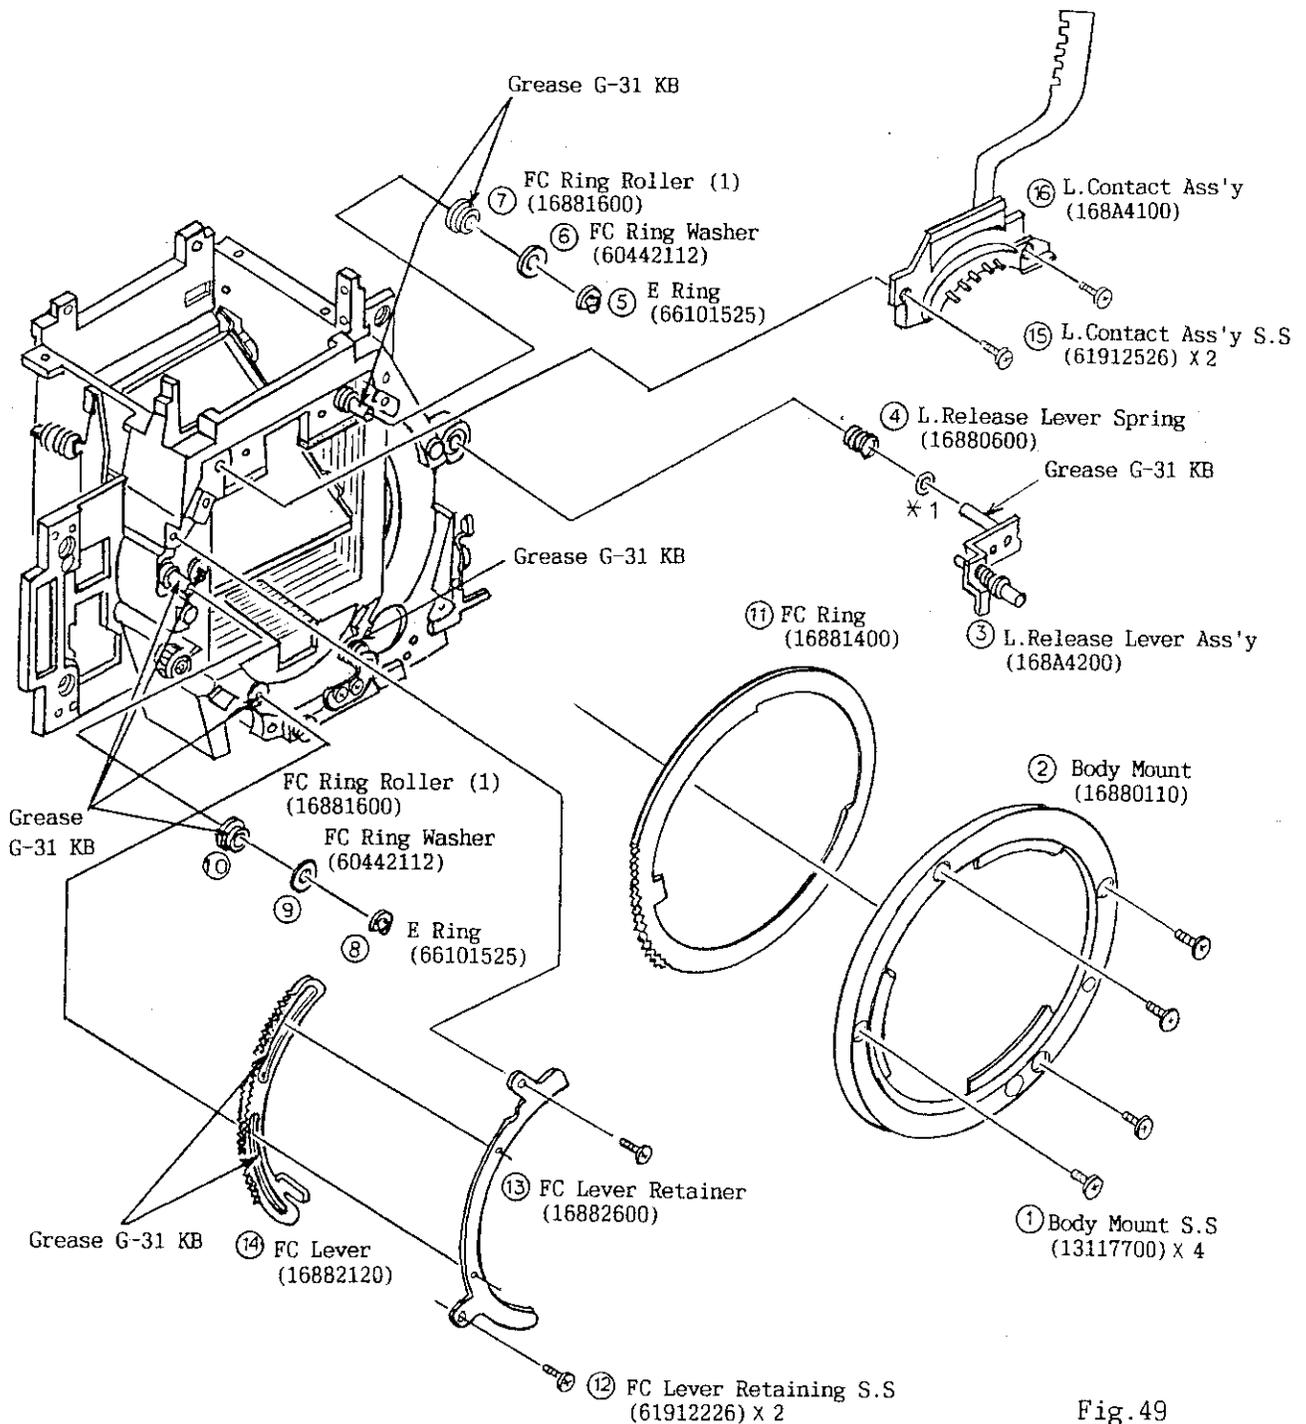

Fig. 49
1) Remove the parts shown in Fig. 49 in the indicated order.